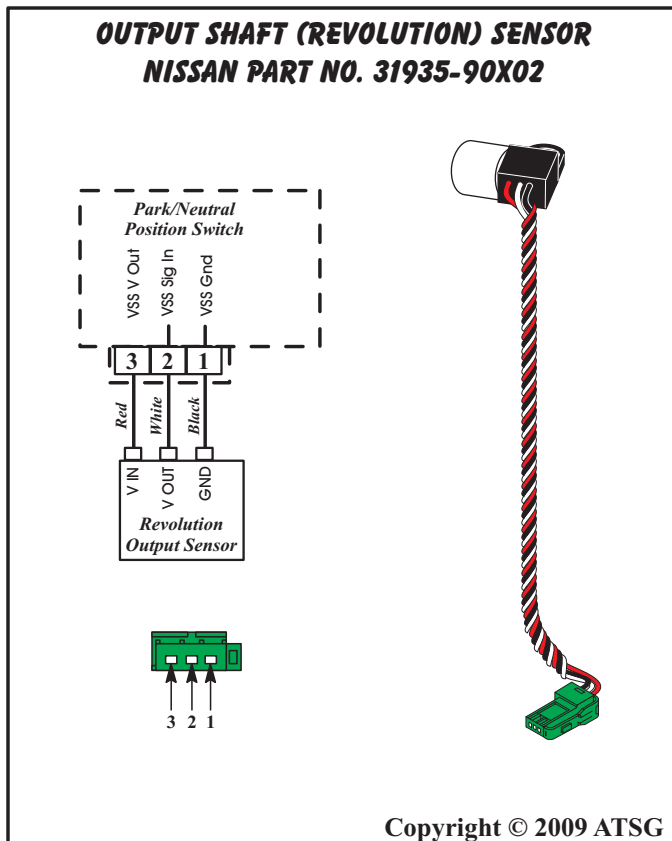
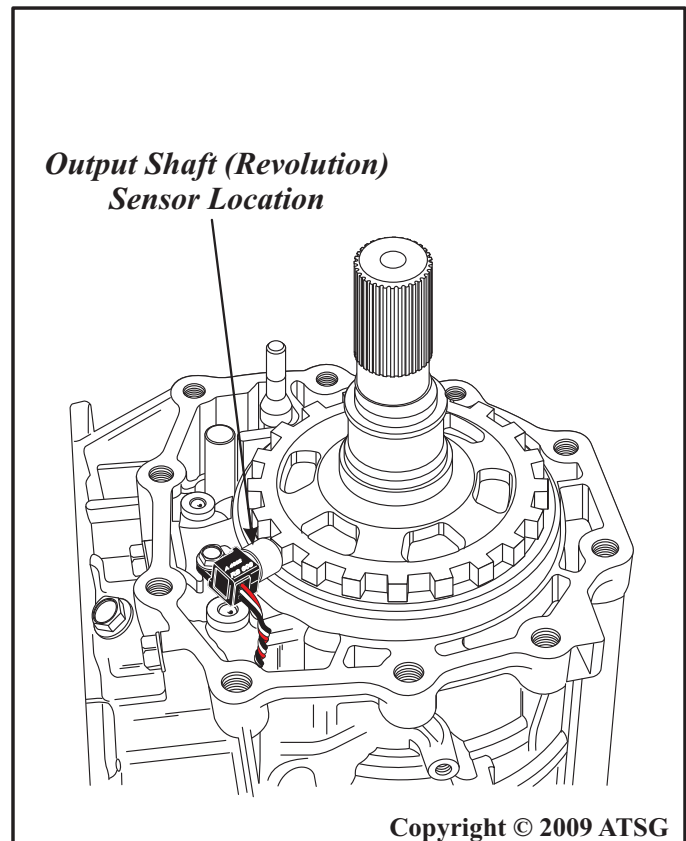

Figure 13
Figure 14
The Output Shaft (Revolution) Sensor is a Hall Effect type sensor, as shown in Figure 13. It is located in the rear housing of the transmission, as shown in Figure 14. The output shaft sensor obtains its reading off of the park gear, and generates a VSS signal that is used by the TCM to assist in determining shift scheduling.
- (1) Remove the tail housing or transfer case from the transmission, and the transmission oil pan.
- (2) Unplug the F506 Green Connector from the P/N Position Switch.
- (3) Run 12 volts from a battery, to the Red Wire (*Pin 3*) of the F506 Green Connector.
- (4) Run a jumper lead from the Black Wire (*Pin 1*) of the F506 Green Connector to battery ground.
- (5) Using a DVOM or Graphing Meter, place the Red lead of the meter to the White Wire (*Pin 2*) of the F506 Green Connector, place the Black lead of the meter to the Black Wire (*Pin 1*) of the F506 Green Connector.
- (6) Rotate output shaft slowly and you should see the meter toggle from voltage to infinite as the lugs on the park gear pass in front of the Output/Revolution Sensor Pick-up. Refer to Figure 13 and 14.